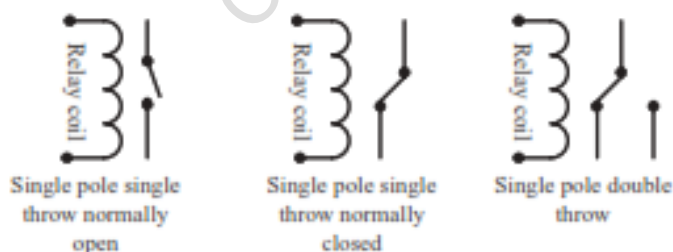

Fig. 2.21 Relay configurations
- Figure 2.21 given below illustrates the widely used relay configurations for embedded applications